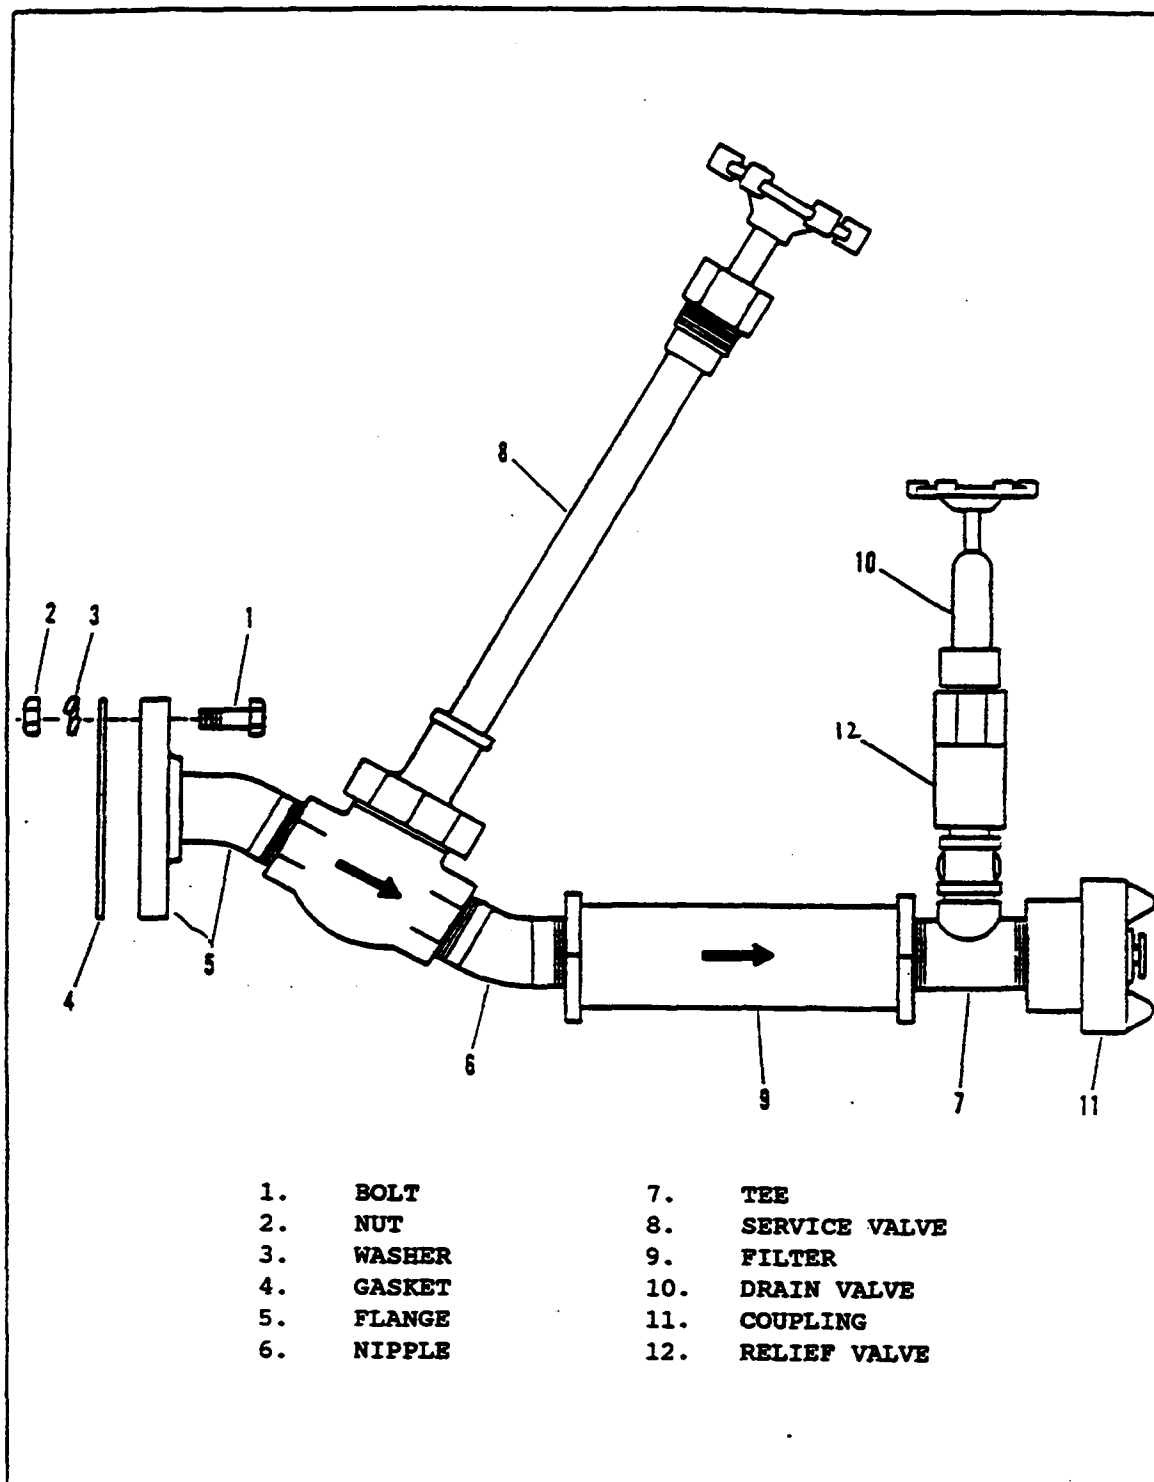

Figure 5-2. Servicing Line Component Removal and Replacement.
#### 5-3.1 Servicing Line (SL) Filter (F-1) (See Figure 5-2). Removal and replacement of (F-1) is as follows:
- b. Open drain valve (12) completely and remove the stem/bonnet assembly.
- c. Support the filter (9) to prevent movement and remove manifold from filter (9).
- d. Support the pipe nipple (6) to prevent movement and remove filter (9). Dispense of the filter through proper channels for cleaning.
- e. Put anti-seize tape on the male threads of the pipe nipple (6) and install a filter making sure the arrow is pointed away from the tank.
- f. Put anti-seize tape on the male threads of the manifold. Support filter (9) and install manifold into filter (9). Ensure that the globe valve body is in the correct position for installing drain lines.
g. Reassemble the stem/bonnet assembly into valve body (12) of the SL drain valve (12).
#### 5-3.2 Servicing Line (SL) Drain Valve (V-4) (See Figure 5-2). Removal and replacement of (V-4) is as follows:
- a. Open (V-4) (10) and remove the stem/bonnet assembly.
- b. Disassemble (10) as required (Refer to the Repair and Overhaul Instructions T.O. 37C2-8-19-13).
- c. Remove valve body (10) from manifold.
- d. Put anti-seize tape on the male threads of manifold to which valve body (10) is mounted and install (10).
f. Reassemble the stem/bonnet assembly into valve body (10).
5-3.3 Servicing Line (SL) Pressure Relief Valve (RV-1) (See Figure 5-2). Removal and replacement of (RV-1) is as follows:
a. Support manifold tubing and remove (RV-1) (12) from manifold.
b. Put anti-seize tape on the male threads of the relief valve. Support manifold tubing and install a new relief valve (RV-1) (12).
5-3.4 Servicing Line (SL) LOX/LIN Coupling (See Figure 5-2). Removal and replacement of the SL LOX/LIN coupling is as follows:
b. Remove LOX/LIN coupling (11) from the manifold.
c. Put anti-seize tape on the male threads of manifold and install LOX/LIN coupling (11).